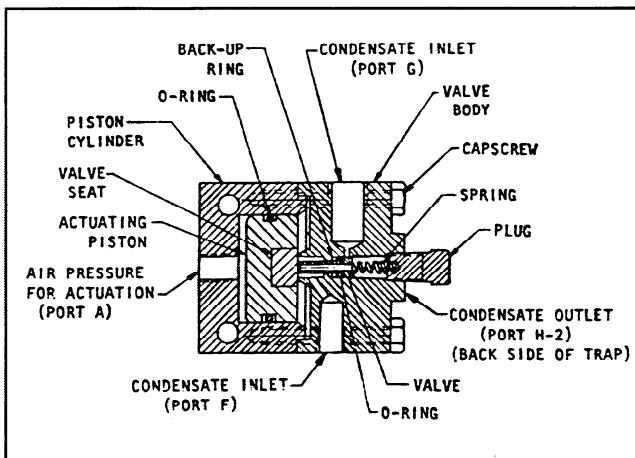

Figure 7-2. Automatic Condensate Drain Valve. (Furnished as optional equipment with certain models.)
Normally, this valve should require no maintenance. However, if there is evidence of air or condensate leakage through the valve (determined by flow from the drain lines while the compressor is operating loaded), the valve piston O-rings (See Figure 7-2) may be defective, or the piston sealing surfaces on the drain valve body may be scratched or wire drawn.
**VALVE DISASSEMBLY** - Refer to Figure 1-4 for valve location. To disassemble the valve, refer to Figure 7-2 and proceed as follows: